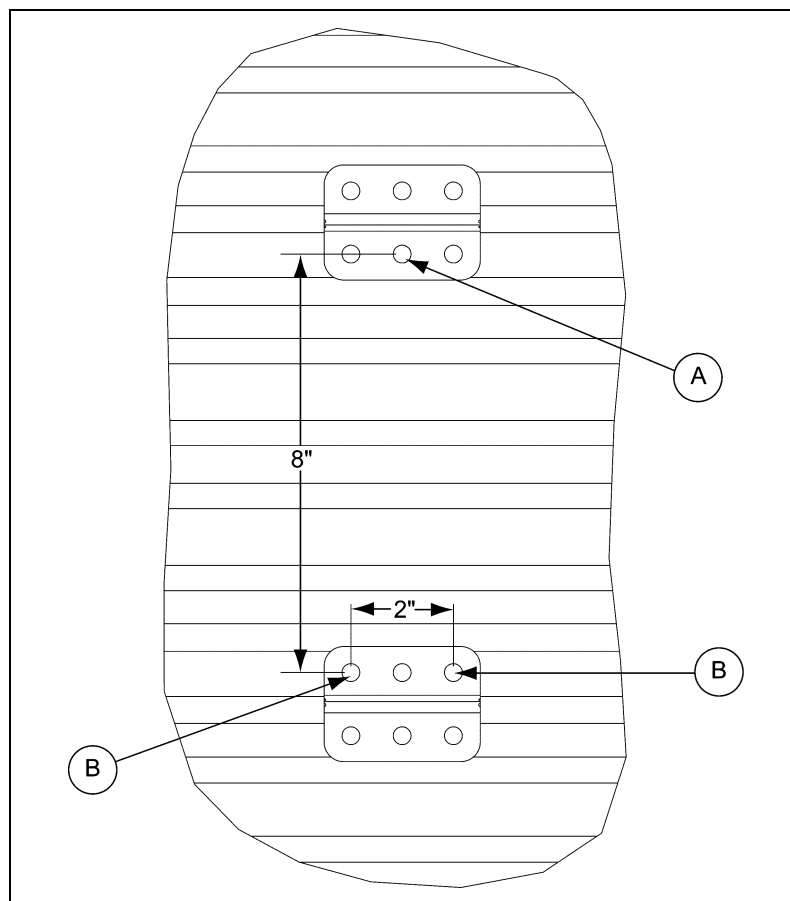

Figure 3A
6. Eight inches (8") vertically down from the previously drilled hole, drill two (2) holes that will accept one of the 5/16"-18 x 1-1/4" bin bolts with washer at the peak of a rib in the sidewall sheet. The holes should be spaced away from that top hole (A) one inch (1") to each side. See Figure 3A for visual explanation.